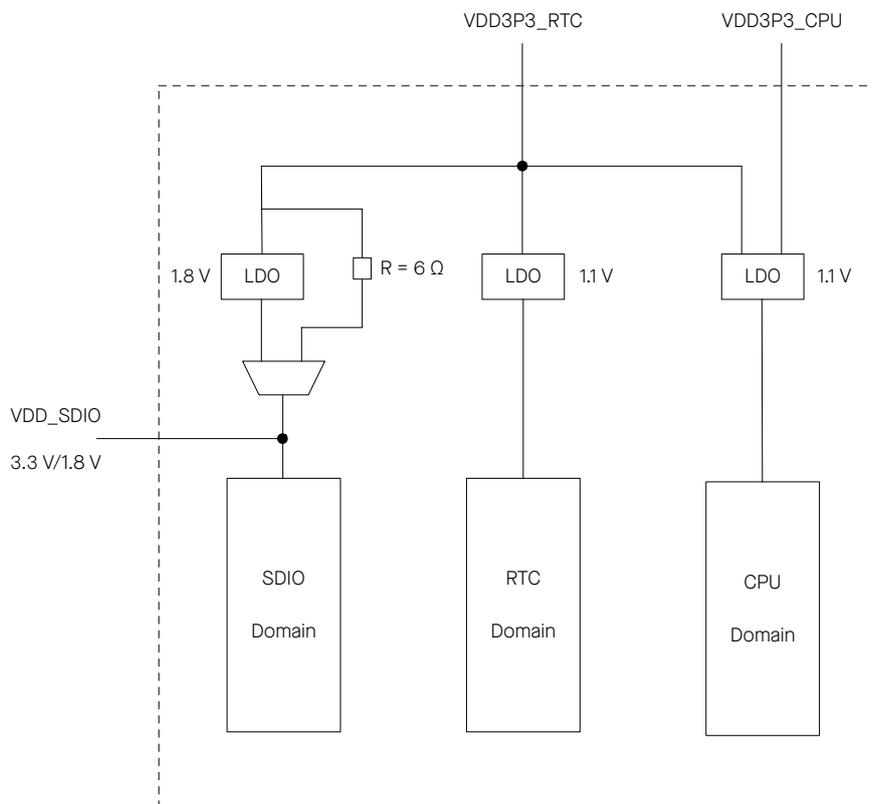

Figure 2-3. ESP32 Power Scheme
The power scheme is shown in Figure 2-3 ESP32 Power Scheme.
1. As the in-package flash/PSRAM in ESP32-U4WDH/ESP32-D0WDR2-V3 operates at 3.3 V, VDD_SDIO must be powered by VDD3P3_RTC via a 6 Ω resistor. See Figure 2-3 ESP32 Power Scheme.